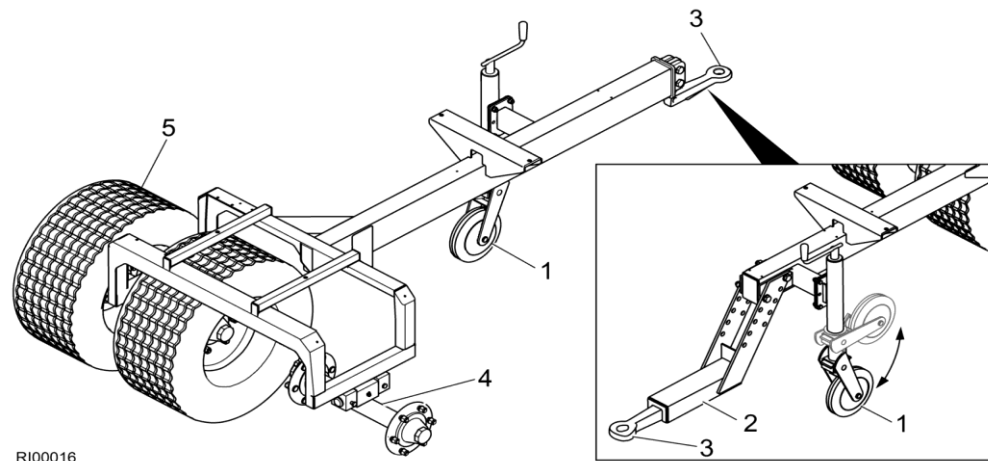

Fig. 8 Chassis, complete DS1600
The chassis consists of a profile steel frame to which two running axles (Fig. 8/4) (each with twin tyres (Fig. 8/5)) are attached. The drawbar with angled drawbar eye (Fig. 8/3) is inserted into the profile steel frame. The jockey wheel (Fig. 8/1) with adjustment spindle is bolted to the outside left of the profile steel frame.
- Downward cranked hitch (bottom hitch) (Fig. 8/2)